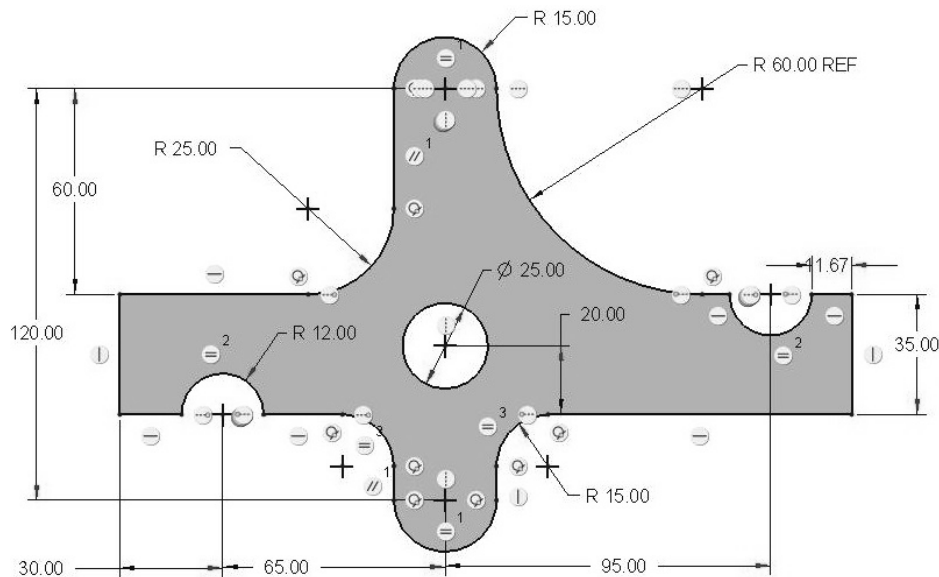

Figure 3-81 Problem 12—Ratchet Pawl
3.12 Challenge problem - Draw the "Ratchet Pawl" (Figure 3-81). **Design Intent**—All arcs are tangent to each other or the straight edges. The R 12.00 arcs are centered are aligned with the horizontal edges. Pay close attention to the constraints shown. (>File>Options>Sketcher, change to 2 decimal places before sketching.)